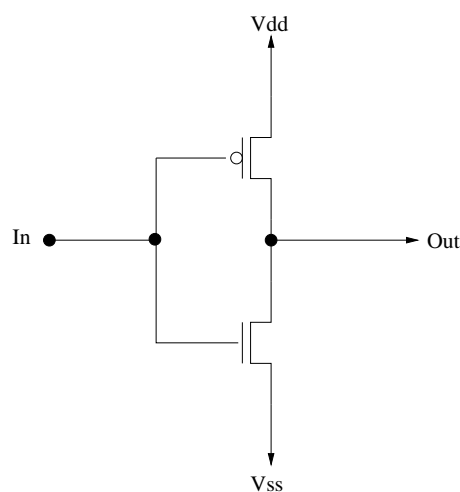

Figure 1: transistors diagram of a C-MOS inverter
- draw the inverter "stick-diagram" inv_x1 whose transistors diagram is represented on the figure 1.